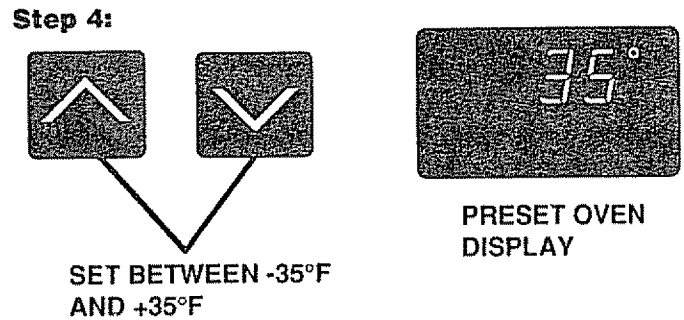

Fig. 3
4. The temperature can be adjusted up to +35°F hotter or -35°F cooler. Use the **UP** or **DOWN** arrow pad to select the temperature adjustment you want. See Fig. 3. The temperature you select is the new preset oven display.